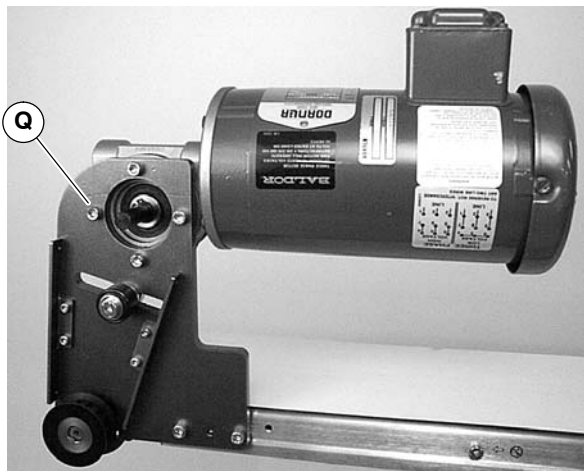

Figure 21
- Remove four (4) gear reducer mounting screws (Q of Figure 21). Remove gearmotor.
12. Install gearmotor to mounting bracket and tighten screws (Q of Figure 21) to 103 in-lb (12 N-m).